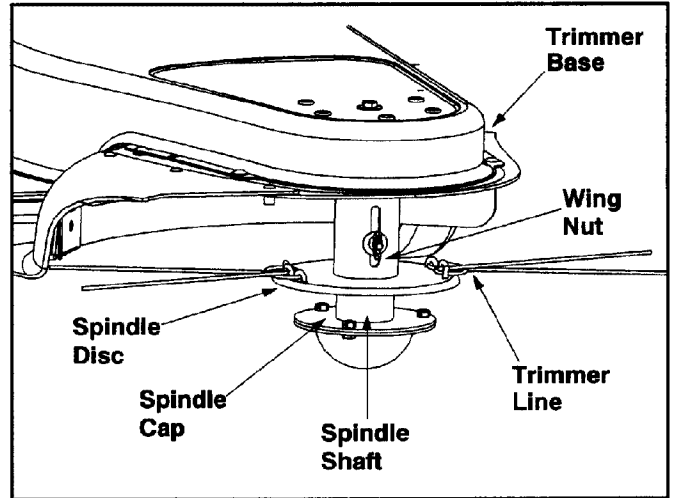

Figure 6
- The string trimmer mower is designed with a permanent off-set on the left side, in which the trimmer line is off-set from the trimmer base. This allows the operator to trim along a fence, landscaping, or a house without having to make any adjustments to the spindle assembly. Refer to Figure 6.
- The trimmer line is connected to the spindle disc, which can be raised or lowered. See Figure 6.